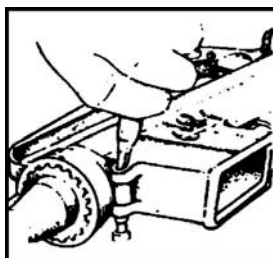

Figure 7. Pushing the receiver pivot pin.
- e. Push the receiver pivot pin (Figure 7).